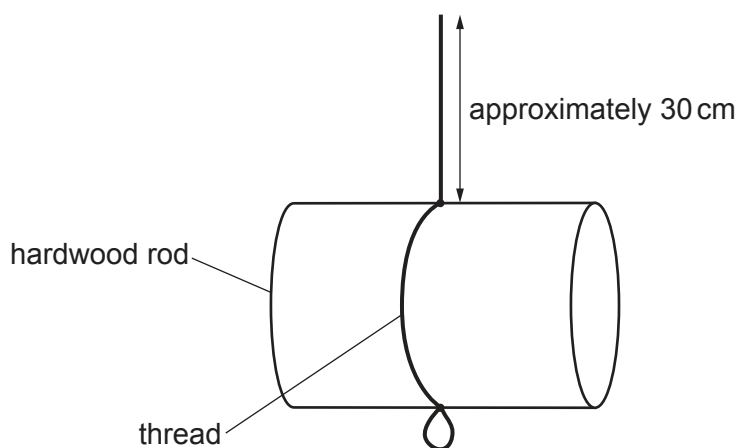

Fig. 1.1
1. Thread must be securely tied to the rod as shown in Fig. 1.1. The thread must have a small loop below the rod and there should be approximately 30 cm of thread above the rod. The rod must be able to float freely in water in the measuring cylinder.